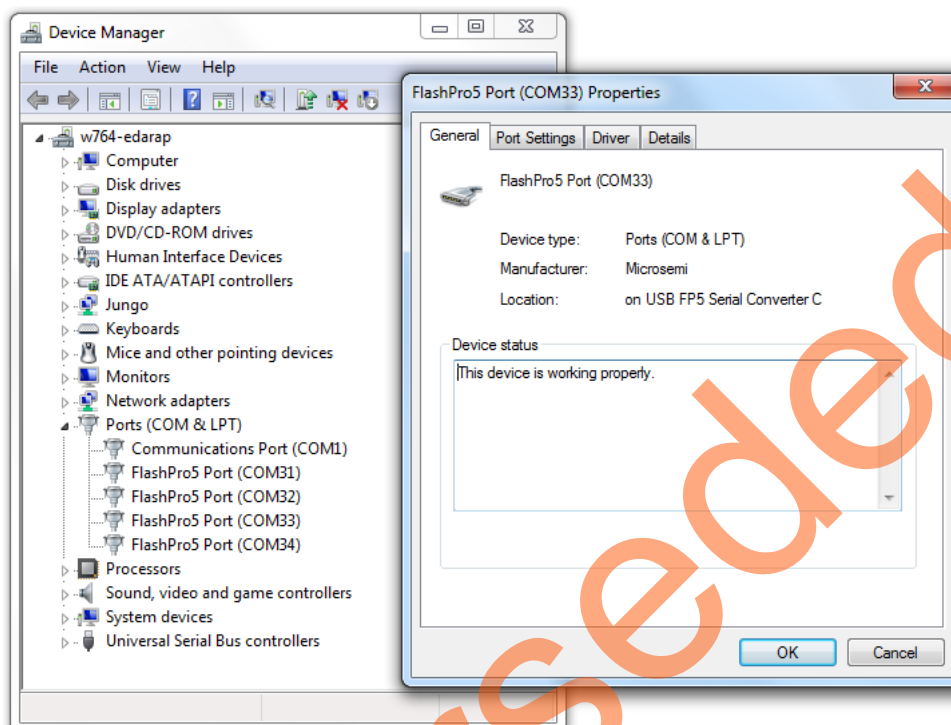

Figure 17 • Device Manager - FlashPro5 Properties
2. Select one of the four COM ports with **Location** as on **USB FP5 Serial Converter C**. Figure 17 shows the **Device Manager** window and its properties that display the **USB Serial Port** details. The COM port number is required to run the demo design.